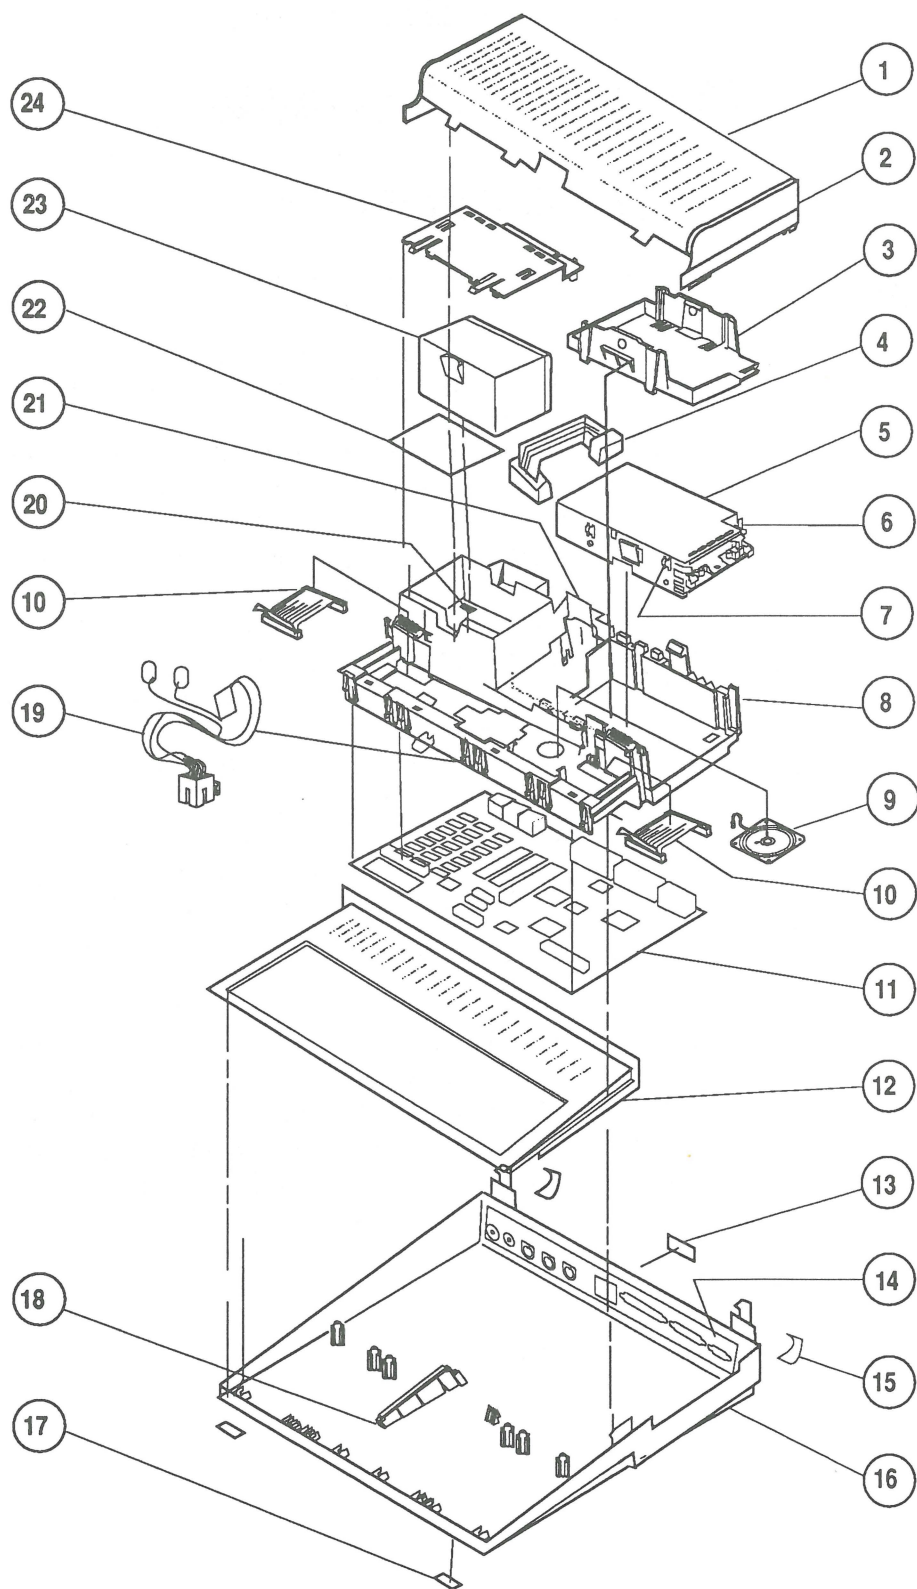

FIGURE 1
- IPL.3 Macintosh Portable—System Exploded View (Figure 1)
□ MACINTOSH PORTABLE—SYSTEM EXPLODED VIEW (Figure 1)